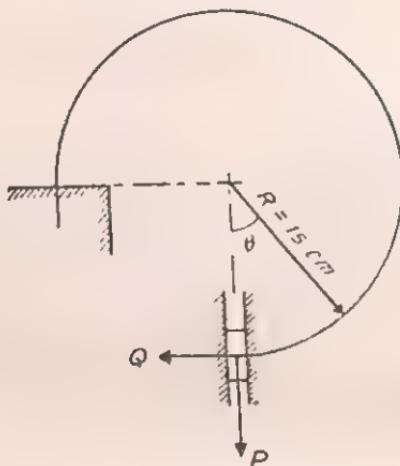

Fig. 46
25. Fig. 46 shows a steel rod 1 cm diameter with one end firmly fixed into a horizontal table. The remainder of the rod is bent into the form of three-quarters of a circle and the free end of the rod is constrained by guides to move vertically. If the mean radius to which the rod is bent is 15 cm, determine the vertical deflection of the free end for a load of 10 kg gradually applied there. $E = 2 \times 10^6 \text{ kg/cm}^2$. (Lond. Univ.)